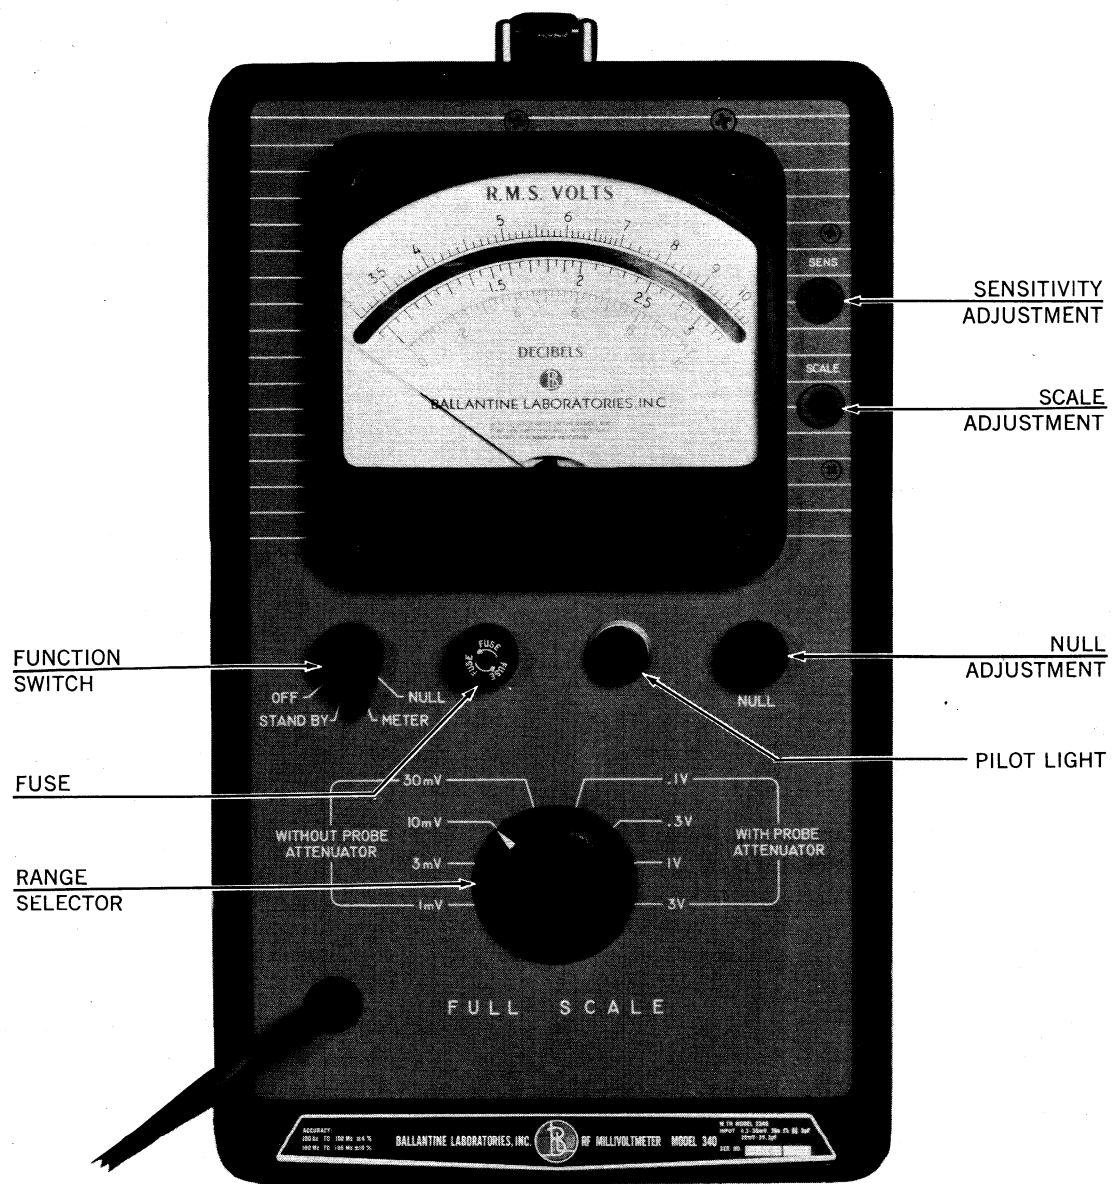

Figure 3. Model 340 — Location of Controls
2.3 Function of Controls (see fig 3. for control locations)